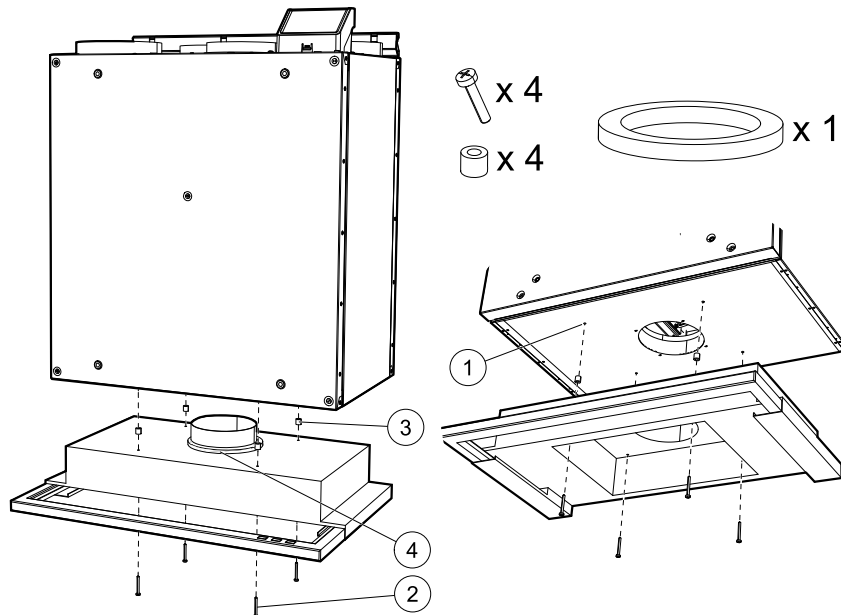

Fig. 13 Attaching the cooker hood directly to the unit
Insert included screws (figure 13, pos. 2) into the cooker hood holes, place included plastic spacers on the each protruding screw to prevent over-tightening (figure 13, pos. 3).
2. Place a circular insulation on the cooker hood connector to prevent air leaking (figure 13, pos. 4).
Screw the cooker hood directly to the bottom of the unit using prepared holes (figure 13, pos. 1).